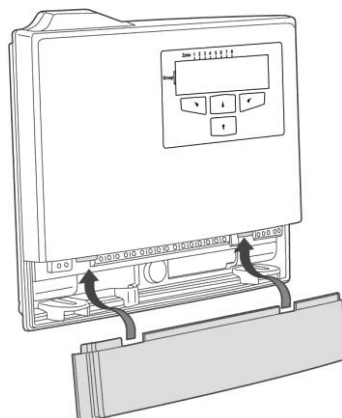

Figure 4: Replacing the Service Cover
9. Replace the service cover and tighten the 2 screws (see Figure 4)